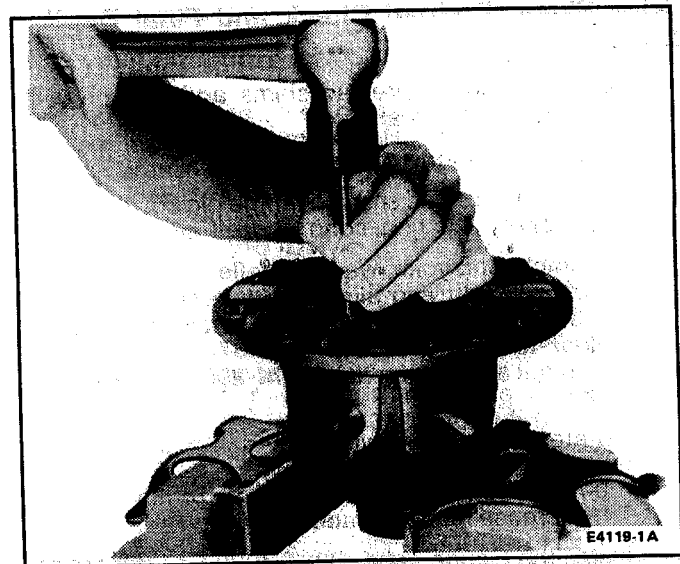

FIG. 38 Removing Lock Pin
1. Place differential case in vise and drive out lock pin that retains the pinion mate shaft to case (Fig. 38).